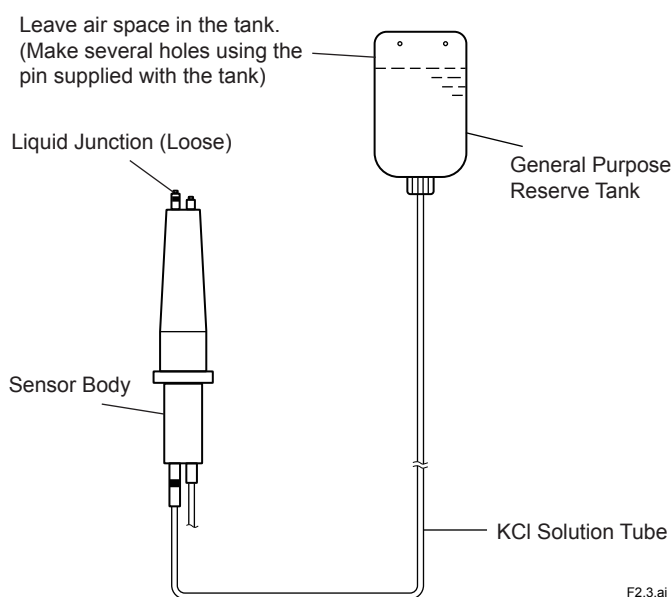

Figure 2.3 Supplying KCl Solution to Sensor Body
- (1) Connect the sensor cable to the associated instrument correctly by referring to Section 2.3 provided later.
- (2) Mount the liquid junction in the sensor body. Peel off the seal attached to the liquid junction mounting hole in the sensor body. Screw the liquid junction gently two or three turns into the hole.
- (3) If specified, a reserve tank containing 250 mL KCl solution and mounting hardware to hold this tank are supplied with the OR8EFG ORP Sensor. Attach the holding hardware to the pipe (2-inch). Connect the reserve tank to the KCl solution supply tube of the sensor. Remove the cap from the tank and screw the tube connector securely into the tank.
- (4) Supply KCl solution to the sensor (see Figure 2.3). First, mount the reserve tank on the mounting hardware with the tube connection part directed downwards. Using the pin supplied with the tank, make several holes at its top (see Figure 2.3). Stand the sensor upside down at a lower position than the reserve tank as shown in Figure 2.3 so that KCl solution flows from the tank into the sensor. When the KCl solution fills the sensor and overflows from the liquid junction mounting hole, securely screw the liquid junction into the mounting hole.
- (2) Connect the sensor cable to the associated instrument correctly by referring to Section 2.3.
- (3) Mount the liquid junction in the sensor body. Peel off the seal attached to the liquid junction mounting hole on the sensor body. Screw the liquid junction gently two or three turns into the hole.
- (4) If specified, a reserve tank containing 250 mL KCl solution and mounting hardware to hold this tank are supplied with the OR8EFG ORP Sensor. Attach the mounting hardware to the pipe (2-inch). Connect the reserve tank to the KCl solution supply tube of the sensor. Remove the cap from the tank and screw the tube connector securely into the tank.
- (5) Supply KCl solution to the sensor. First, mount the reserve tank on the mounting hardware with the tube connection part directed downwards. Using the pin supplied with the tank make several holes in its top (see Figure 2.3). Stand the sensor upside down at a position lower than the reserve tank as shown in Figure 2.3 so that KCl solution flows from the tank into the sensor. When the KCl solution fills the sensor and overflows from the liquid junction mounting hole, securely screw the liquid junction into the mounting hole.
- (6) Screw the protector to fix the sensor to the holder. In this case, remove the protective cap and secure the protector so that the flange of the sensor compresses the O-ring firmly about the installation method.
First, mount the reserve tank on the holding hardware with the tube connection part directed downwards. Using the pin supplied with the tank, make several holes in its top (see Figure 2.3). Stand the sensor upside down at a position lower than the reserve tank as shown in Figure 2.3 so that KCl solution flows from the tank into the sensor. When the KCl solution fills the sensor and overflows from the liquid junction mounting hole, securely screw the liquid junction into the mounting hole.